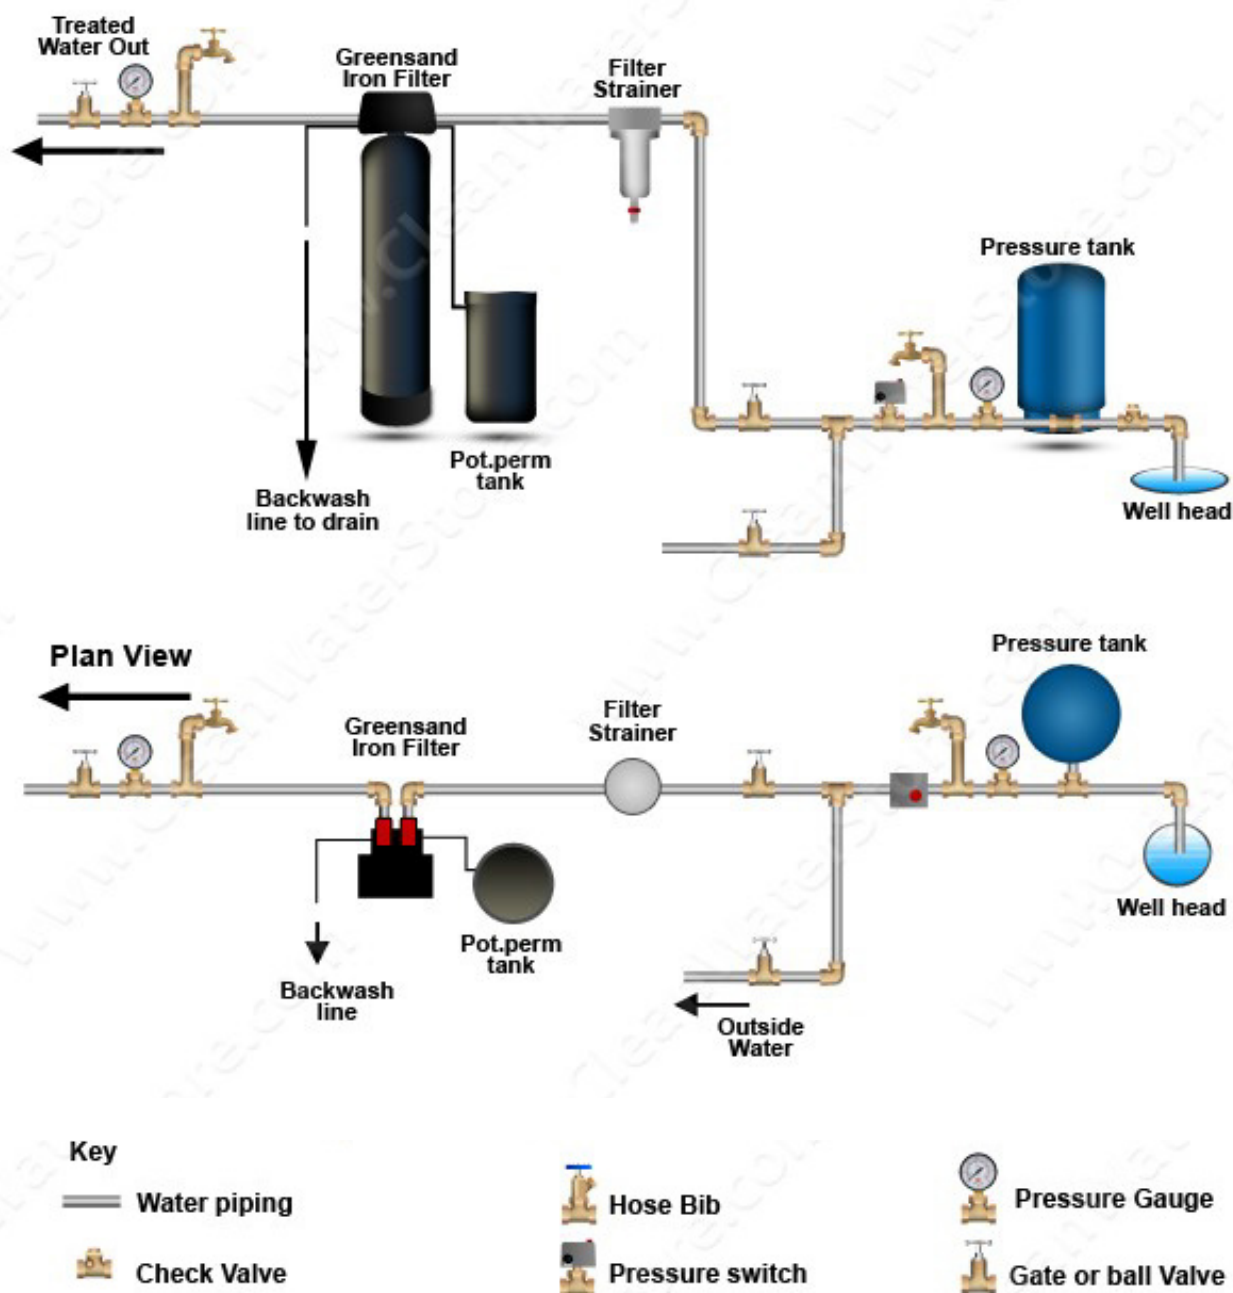

Fig 3
1. See typical installation (Fig 3). The greensand filter is installed after the pressure tank.
2. Make sure to connect the IN pipe to the 5900-BT inlet and the OUT pipe to the outlet (see Fig 2). As you face the 5900-BT control from the front, the water enters on the right and exits on the left. From the back (see Fig 3) the water enters on the left. The inlet and outlet are attached to the bypass valve, which is marked with arrows as well.
3. Make sure there is a working gate or ball valve before the 5900-BT Greensand Filter and also one after as shown in Fig 3. The pressure gauges are optional and perhaps not necessary but a hose bib (which is a faucet that you can attach a garden hose to) is strongly recommended after the Greensand Filter and before the second ball valve. This makes it easy to rinse your new Greensand Filter on start-up and gives you a place to test the water before it enters your household plumbing.
2. Make sure there is a hose bib installed after the system, and a working gate or ball valve before the filter system and one after as shown in Fig 3. The pressure gauges are optional (although strongly recommended) but a hose bib (which is a faucet to which you can attach a garden hose) is strongly recommended after the Greensand 5900-BT Filter and before the second ball valve. This makes it easy to rinse your new 5900-BT on start-up and gives you a place to test the water before it enters your household plumbing.